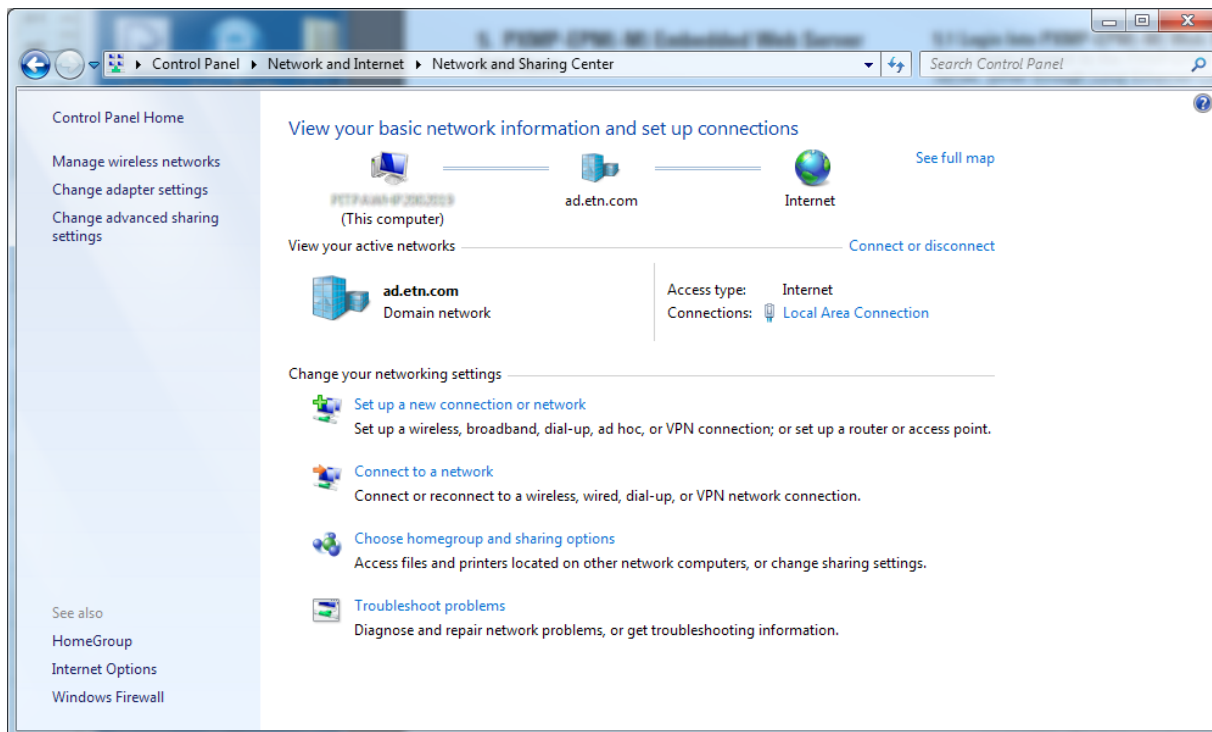

Figure 48. Network and Sharing Center.
2. In Control Panel, click Network and Internet > Network and Sharing Center > Set up a new connection or network (see Figure 48).